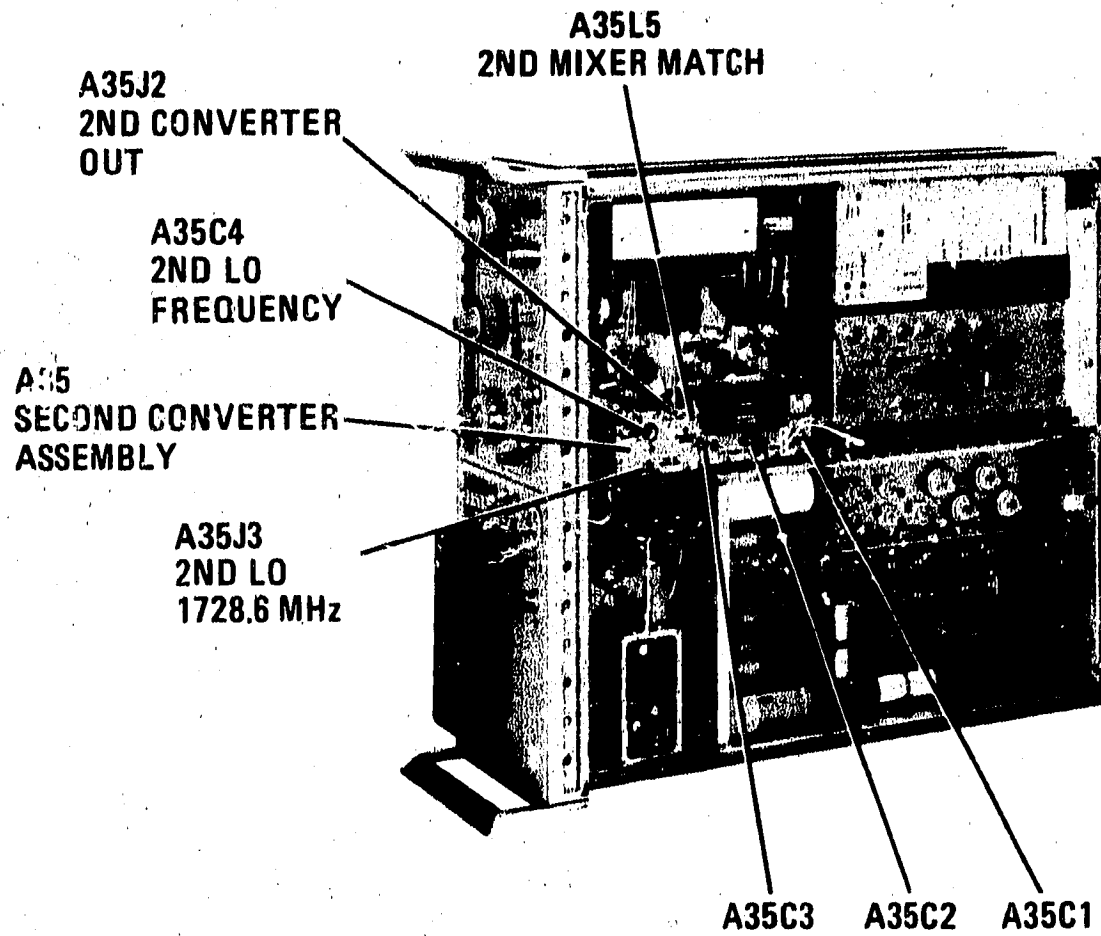

Figure 5-35. Second Converter Adjustment Locations
3. Connect frequency counter through modified adapter (HP 08565-60087) to A35J3 2ND LO (Figure 5-35) and adjust A35C4 2ND LO FREQUENCY for  $1728.60 \pm 0.1$  MHz.